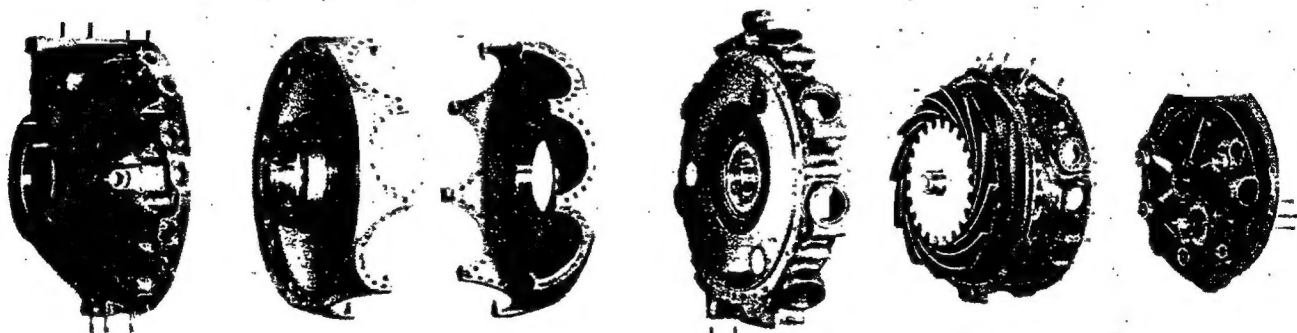

Figure 5—Crankcase Sections—Exploded View
4. The crankcase is composed of six principal sections: the magnesium alloy front section, the steel front and rear main sections, supercharger front housing, supercharger rear housing, and supercharger rear housing cover. See figure 5. The crankcase front section is attached to the crankcase front main section by cap screws. The crankcase main section halves are bolted